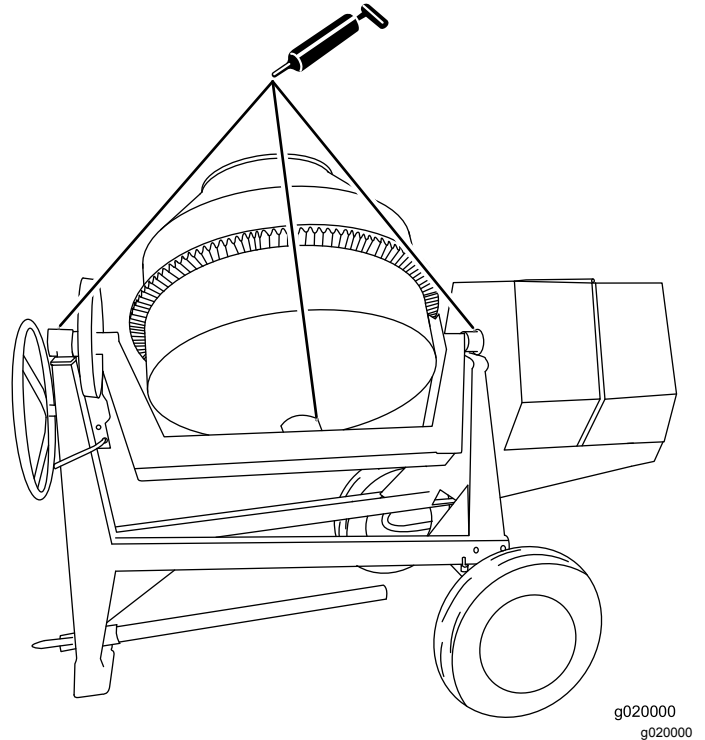

Figure 31
1. Clean around each grease fitting with a rag and lift the plastic cap off the grease fitting (Figure 31).
2. Use a grease gun to lubricate the grease fittings of both trunnions and the drum spindle with general-purpose lithium grease (Figure 31).